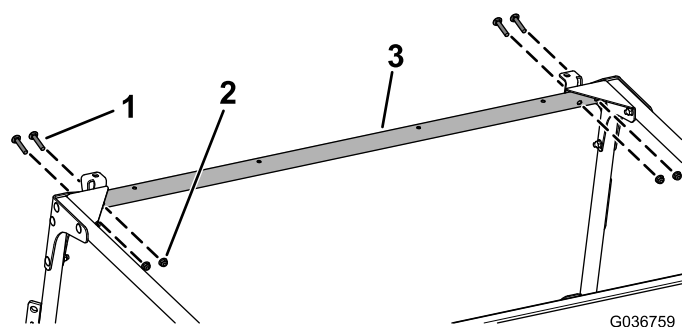

Figure 11
10. Loosely install the front crosslink to the front plates and corner gussets using 4 carriage bolts (5/16 x 1-3/4 inch) and 4 flange nuts (5/16 inch) as shown in Figure 11.